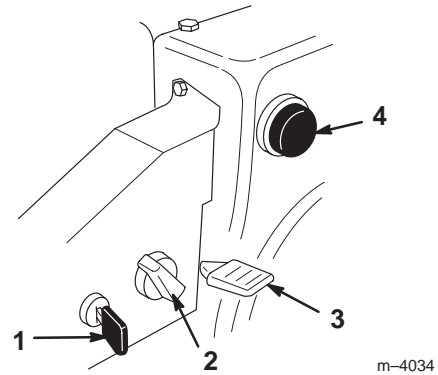

Figure 20
- **Ignition Switch** (Fig. 20)—Insert the key before starting the engine. To stop the engine, remove the key.
- **Choke** (Fig. 20)—Rotate the choke clockwise to the **On** position to start a cold engine. As engine warms up, gradually rotate the choke counterclockwise to the **Off** position.
- **Throttle** (Fig. 20)—Move the throttle upward to increase the engine speed; move it downward to decrease the engine speed. Move the throttle to the **Stop** position to stop the engine.
- **Primer** (Fig. 20)—Press the primer to pump a small amount of gasoline into the engine for improved cold-weather starting.
2. Remove the key from the ignition switch (Fig. 20).
3. Pull the choke knob off (Fig. 20).
5. Rotate the choke (Fig. 20) to the **On** position.
6. Insert the ignition key (Fig. 20).
7. Cover the hole in the center of the primer (Fig. 20) with your thumb and push in the primer 3 times, pausing a moment between pushes.
10. After the engine starts, immediately rotate the choke (Fig. 20) to the 3/4 position. As the engine warms up, rotate the choke to the 1/2 position. When the engine warms up sufficiently, rotate the choke to the **Off** position.